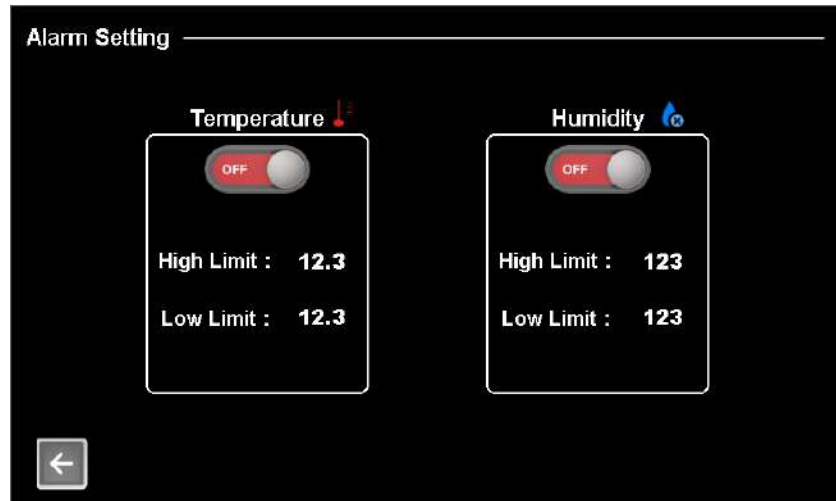

Fig.5
- *System Setting:* Configuration and calibration (Fig. 5)
■ Alarm Configuration (Expanded) (Fig. 5)